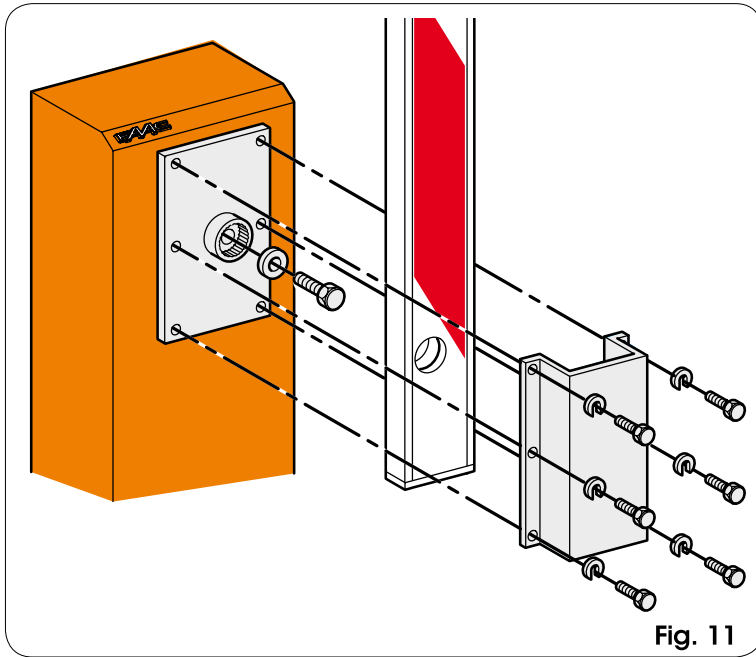

Fig. 11
2. Position the beam in opening position and remove the rocker from the pocket as shown in Fig. 10 or Fig.11.